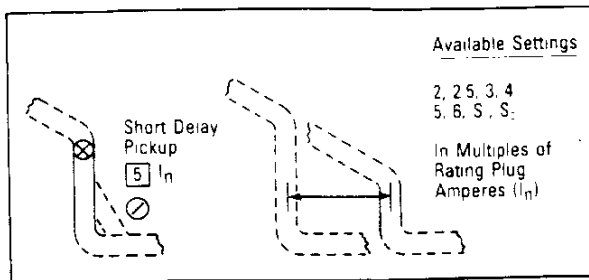

Fig. 6.3 Short Delay Current Pickup Settings
As illustrated in Fig. 6.3, eight (8) available settings range from 2 to 6 (I_N) with two variable settings of S1 and S2. These variable settings depend upon the type of circuit breaker in which the trip unit is installed. Specific information on these settings is given in the supplemental instruction leaflet referenced in Sections 9.1 and 9.2 that is supplied with the circuit breaker. Specific information is also shown on the rating plug and on the applicable Time-Current curve.